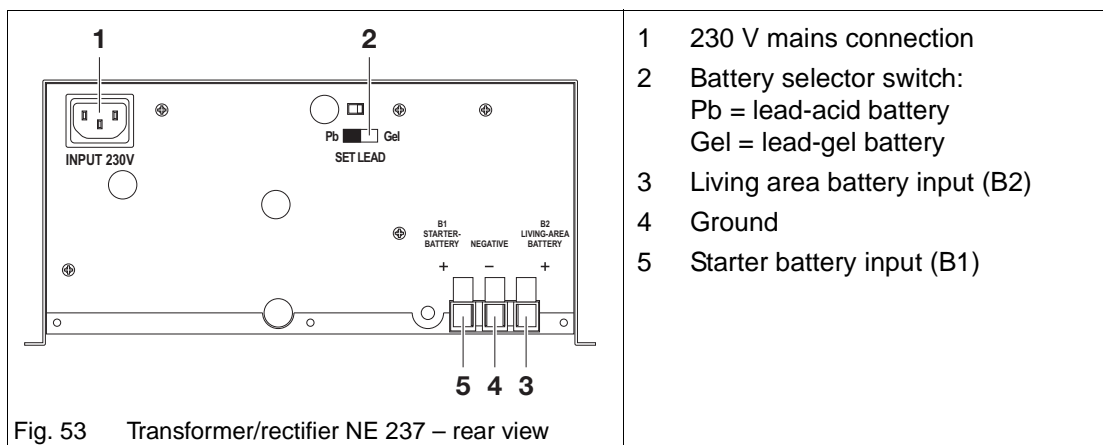

Fig. 53 Transformer/rectifier NE 237 – rear view
- ➔ Check the battery selector switch (Fig. 53/2) is in the correct position (Pb or gel).
▲ If the battery selector switch (Fig. 53/2) is set to the wrong position, the living area battery could become damaged.
→ Disconnect the transformer/rectifier NE 237 from the mains before setting the battery selector switch (Fig. 53/2) to a different position.